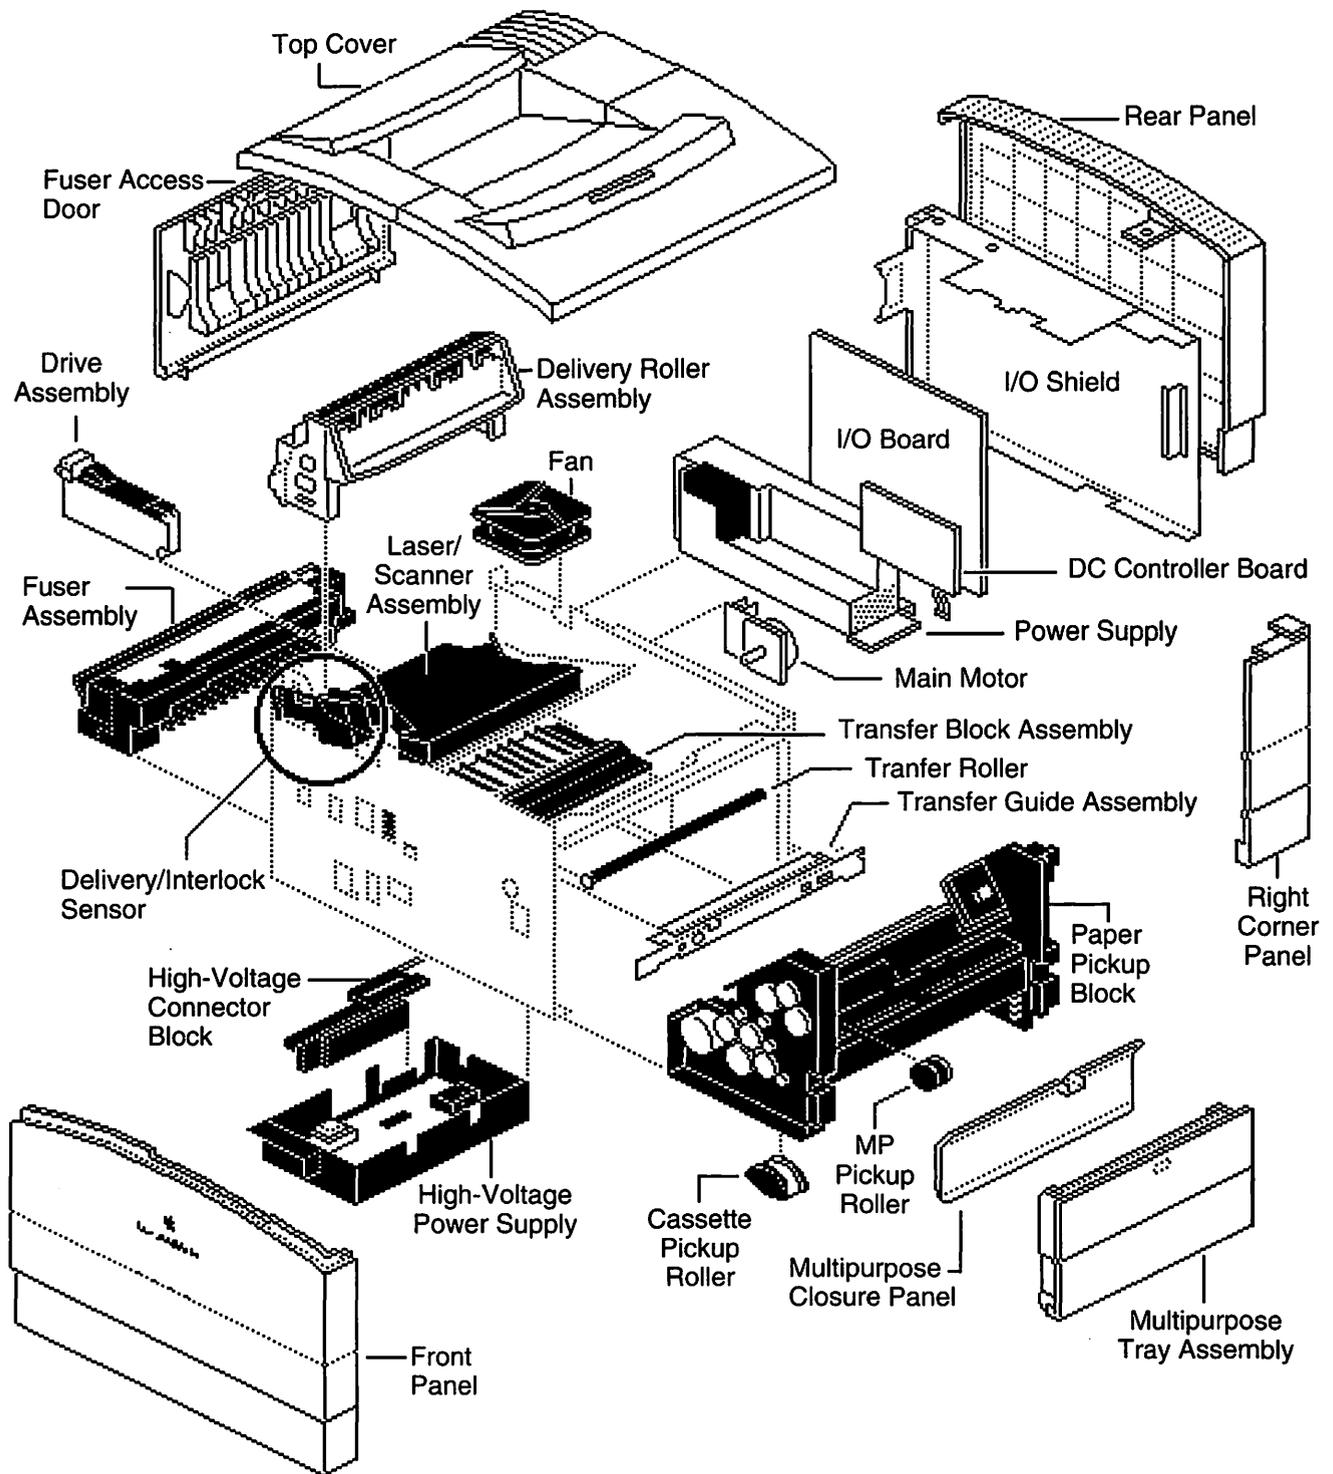

Figure 2-1
- Review Figure 2-1 on the following pages for an overview of the LaserWriter Pro take-apart. Then review the “Take Apart” chapter in the LaserWriter Pro 600/630 manual and on *Apple Service Source*.